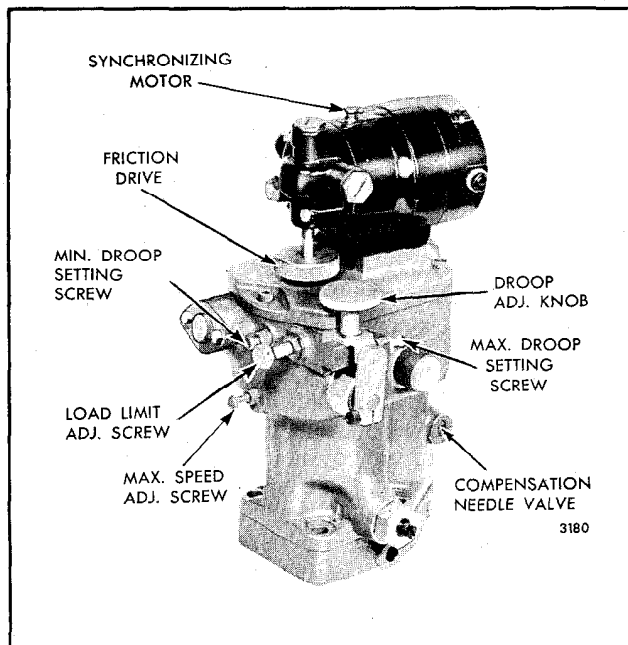

Fig. 10 - Typical Synchronizing Motor Mounting
Some PSG type governors are equipped with an external adjustable droop control (Fig. 10). This permits the speed droop to be adjusted without removing the governor cover. With this feature, a unit can be paralleled with another unit that is operating at constant frequency (zero droop). The incoming unit must have its droop bracket set in the maximum position while it is being paralleled and while operating in parallel. When it is desired to stop the unit operating at constant frequency, shift the load to the incoming unit and move the governor droop bracket to zero droop. Then adjust the outgoing unit to maximum droop, remove it from the line and stop the engine. The incoming unit will now be carrying the load and operating at constant frequency (zero droop).
5. Loosen the droop adjusting knob (Fig. 10) and
Some hydraulic governors are equipped with a reversible electric synchronizing motor (Fig. 10) mounted on the governor cover.